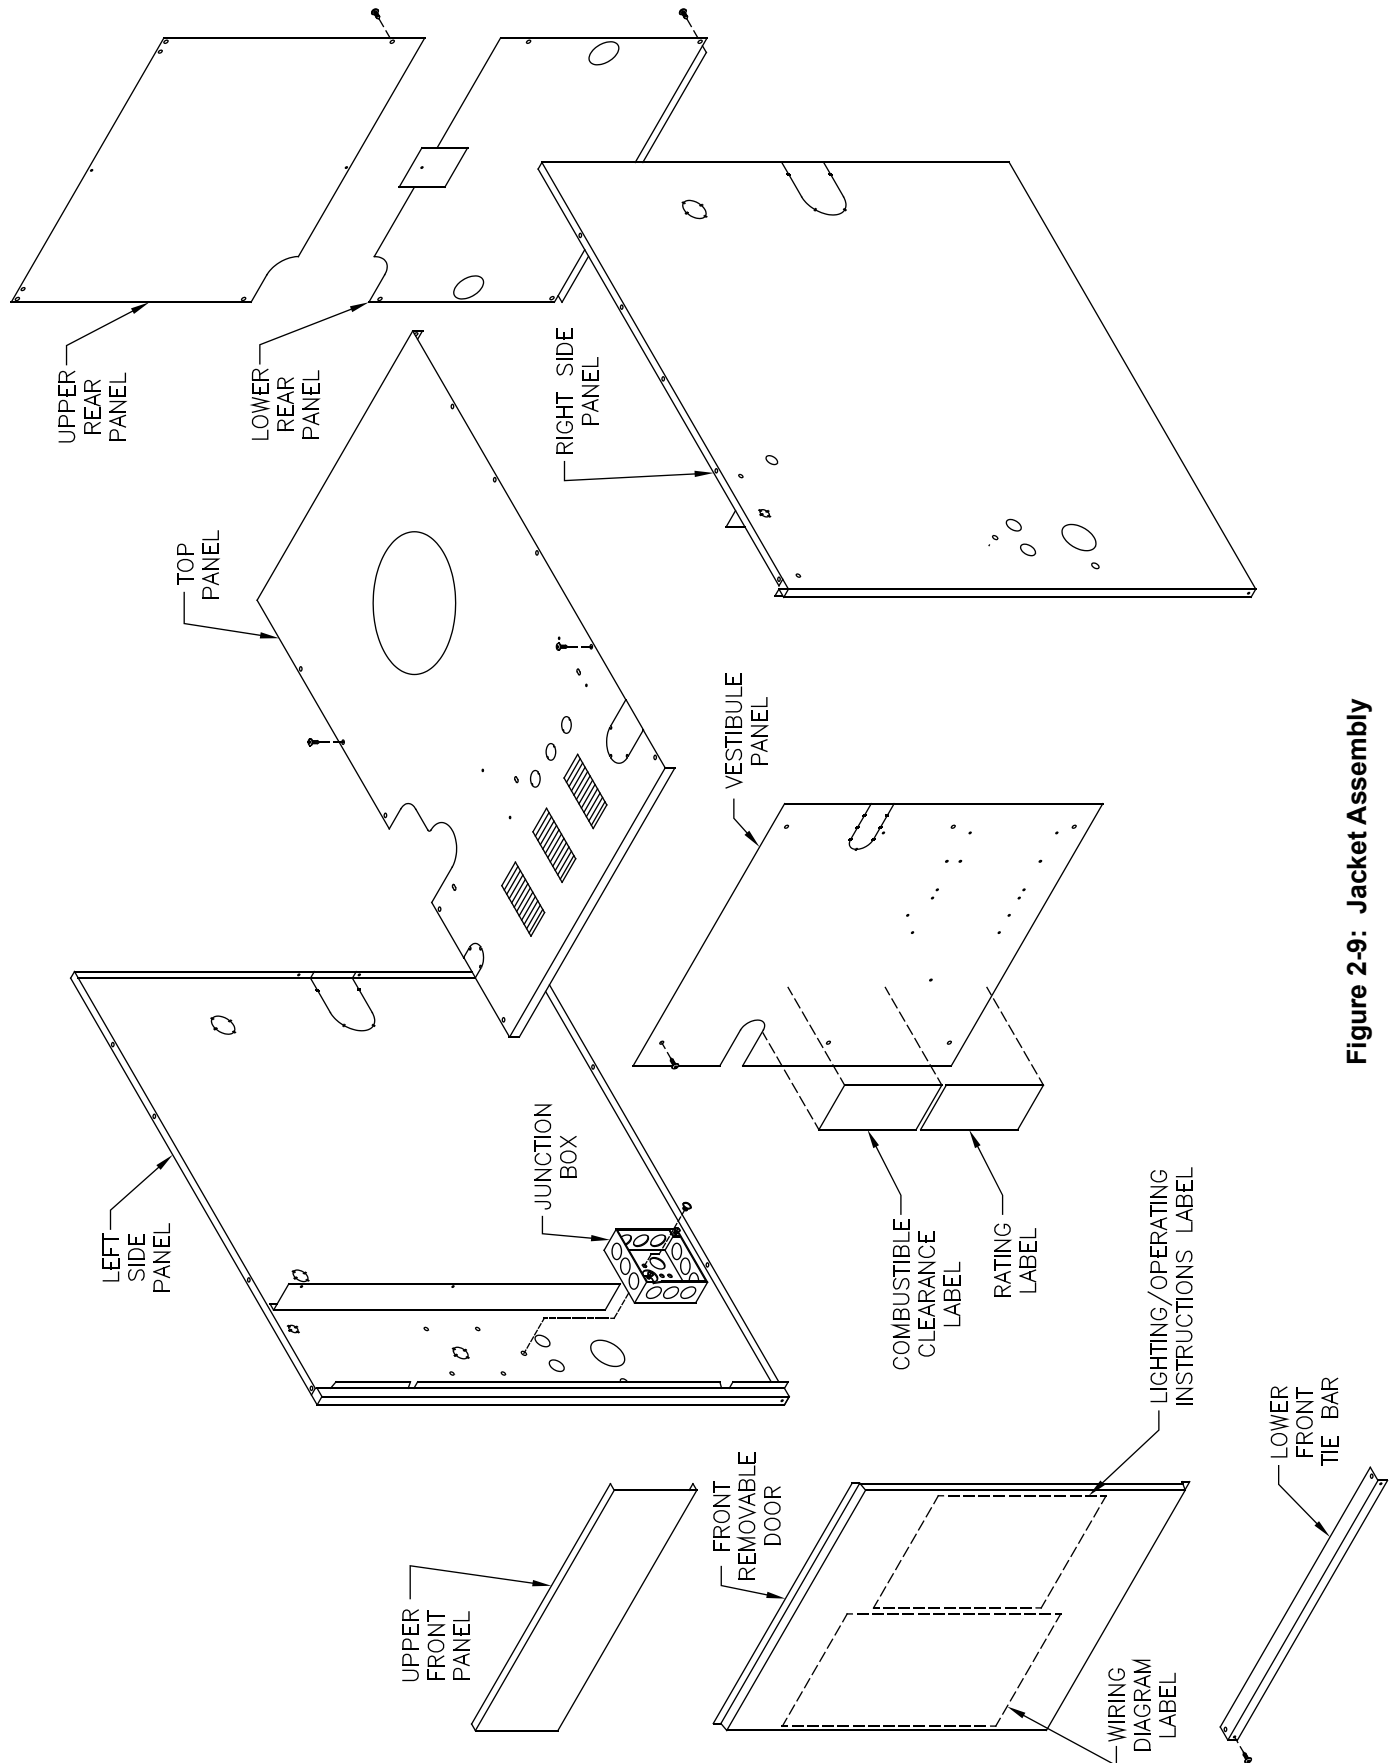

Figure 2-9: Jacket Assembly
P. Install Jacket. See Figure 2-9.